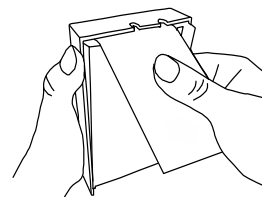

Figure 2: Pull Outward on the Paper Tab
1. Open the transmitter by pulling outward on the paper tab that holds the cover and mounting base together (Figure 2).